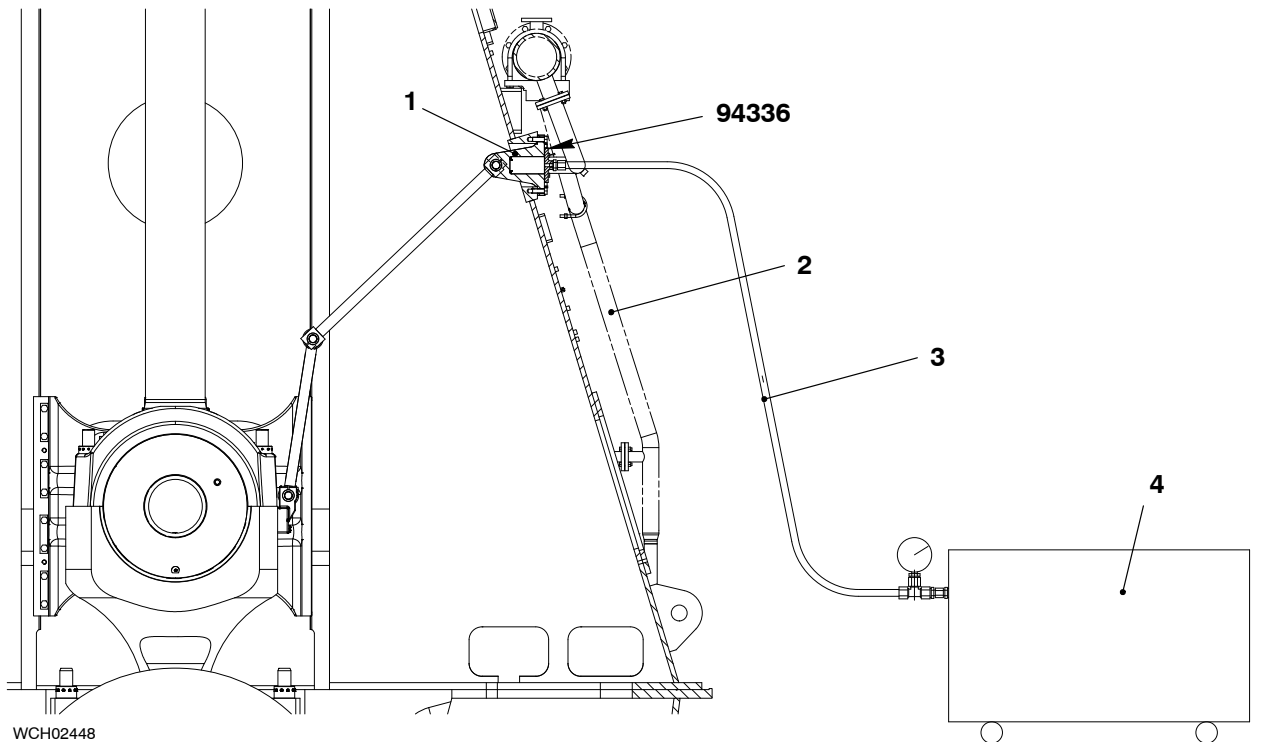

Fig. 10
- 1) Remove the oil inlet pipe (2, Fig. 10).
- 2) Attach the flange (94336) to the support (1).
- 3) Connect the hose (3) to the flange (94336).
- 4) Fill the lubricating pump (4) with the steam-engine cylinder oil (refer to Table 1).
- 5) Operate the lubricating pump (4) until oil flows from the sides of the bearing.